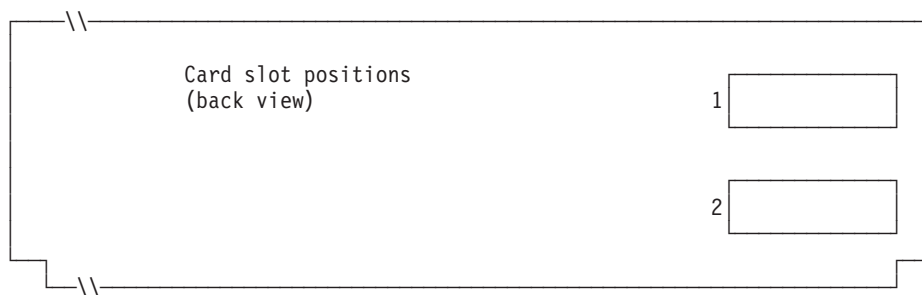

Figure 128. Rear of 4694-3x7 Point-of-Sale Terminal
4. Mark an X on Figure 128 in each card slot that has a Dual Asynchronous Adapter card installed **for use by terminal applications**. Do not mark an X if the card is to be used by applications other than terminal applications use .